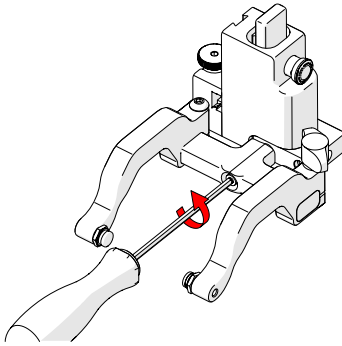

Fig. 80 - Remove yoke
1. Using the supplied 3 mm driver, unscrew the yoke (Fig. 80).
1. Remove the yoke using the supplied 3 mm hex driver (Fig. 80).